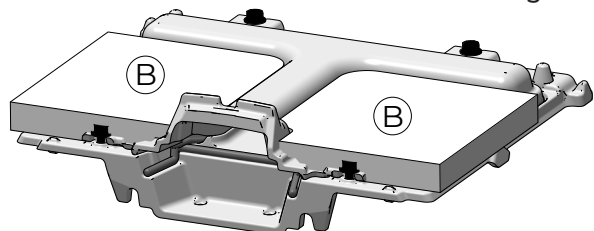

Fig. 7.13
| 8 | Place the new back plate on the rear insulation panels (B) (Fig. 7.13) |